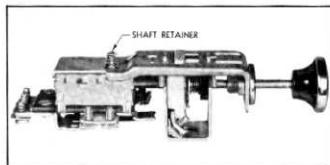

Fig. 63—Light Switch Shaft Retainer
2. Depress the switch shaft retainer (fig. 63), and remove the knob and shaft.